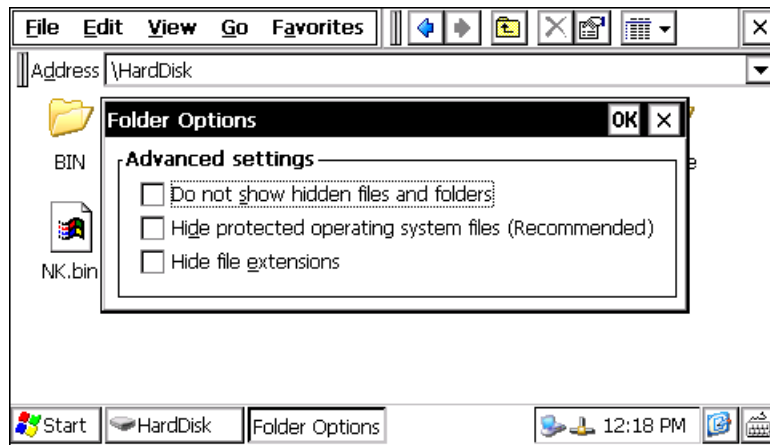

Figure 55
view options have also been set to show hidden files in order to aid backup operations (see Figure 55).
3. Ensure that the Windows Explorer view options have been set as shown in Figure 55.